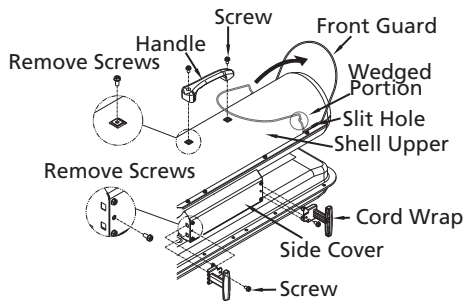

Figure 7 – Handle and Cord Wrap Installation 3VE48G and 3VE49G only
3. Align the holes in upper housing with two mounting holes on the handle as shown in Figure 7.
5. Insert cord wrap into the rectangle holes on the supporter and align the hole on the cord wrap with the mounting hole on the side cover as shown in Figure 7.